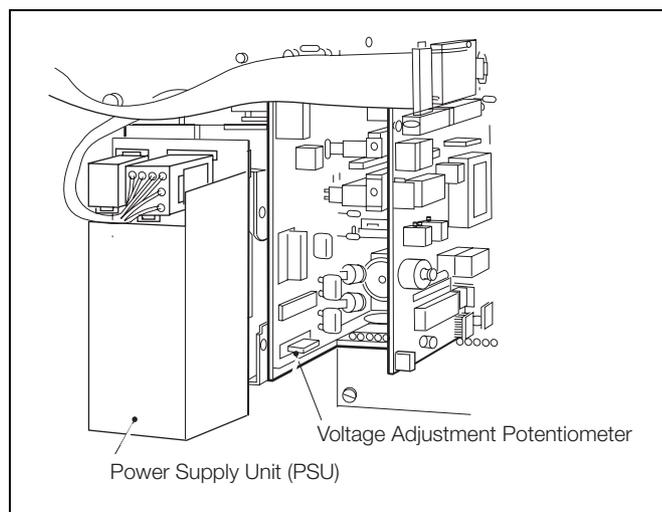

Fig. 8.5 Location of the Potentiometer on the Cuvette Board
8. When the voltages are stable make fine adjustments with the potentiometer, which is sited towards the bottom of the cuvette board (see Fig. 8.5) until the Read voltage is between 20 to 50mV less than the reference voltage.